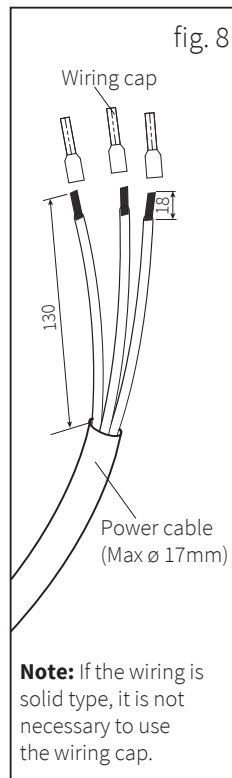

fig. 8
- Insert each wire's exposed core into one of the appropriate wiring caps. Choose the cap to suit the cable size used (see fig. 8, for guidance) and crimp using a square crimping tool.